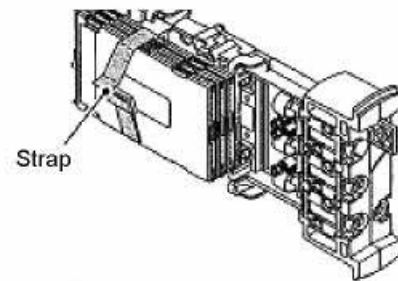

Figure 10b - Securing Splice Trays
15.03 After splicing is complete and the trays are stored, secure them by using the hook and loop strap provided. See **Figure 10b**.